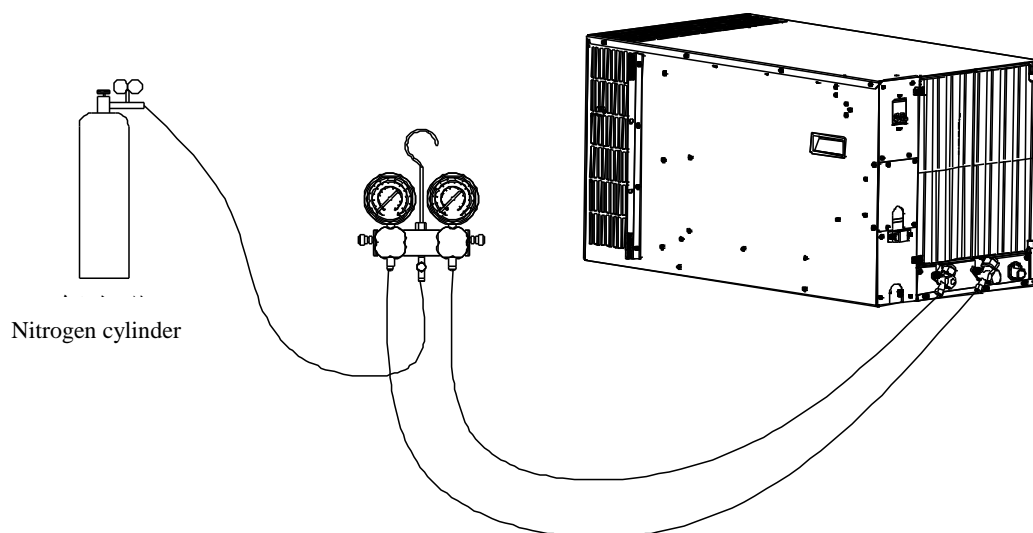

Figure 5-1 Schematic diagram of nitrogen filling and pressure maintaining operation
4. If it is determined that there is a welding leak, the leak must be found and repaired in time. Refer to Figure 5-1 for operation.